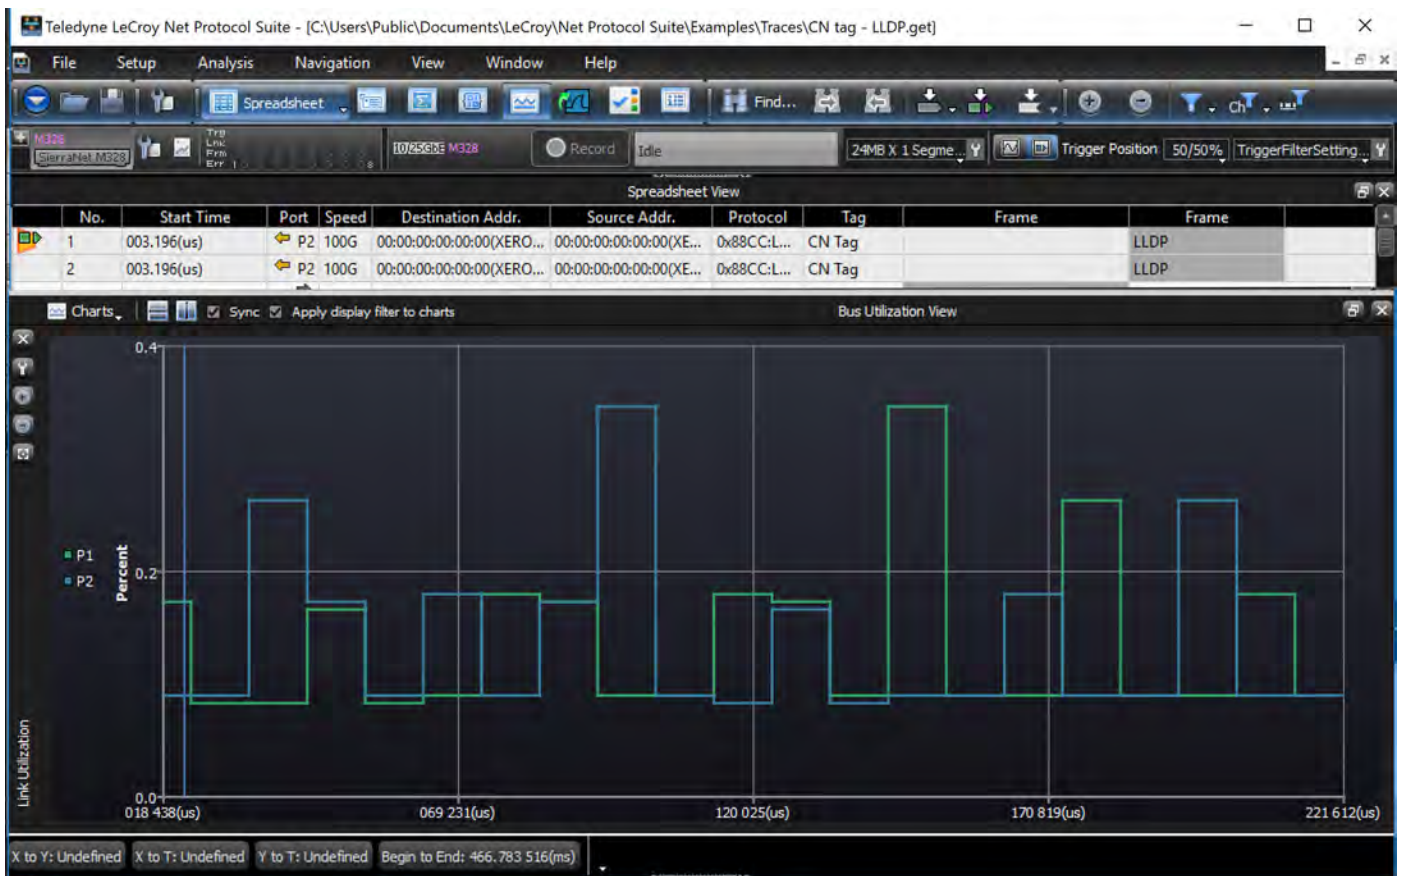

Figure 5.91: Measurement Interval: 10,000 nsec (Fewer number of Samples)
- ◆ Larger intervals will result in fewer data points, and thus less-precise graphs (Figure 5.91).